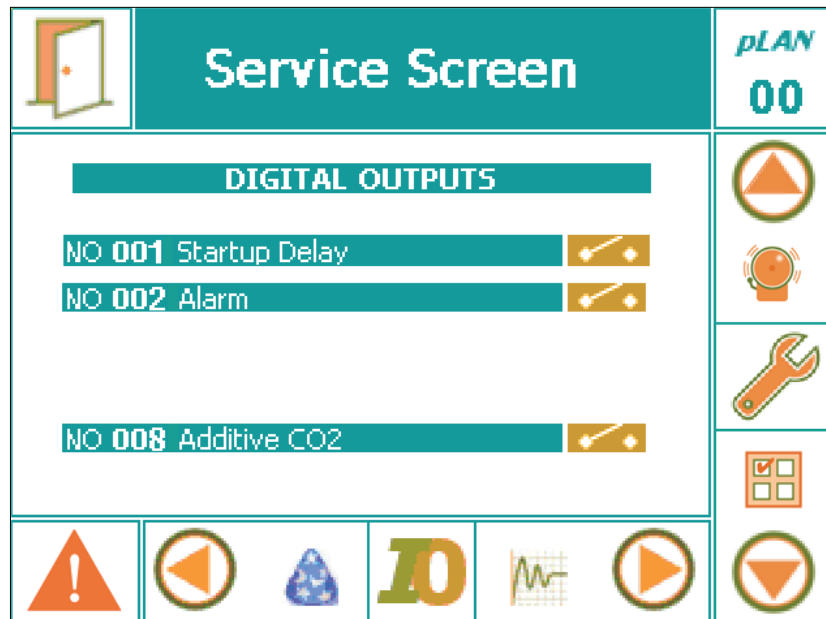

Fig 9-3: Sample I/O Screen - Digital Outputs
- When a program is not running, the I/O Status screen allows analog and digital output signals to be altered. This interactivity enables qualified service technicians to troubleshoot the chamber. Refer to Figure 9-3 for a sample screenshot of Digital Outputs. Note that the 'Orange' fields (when a Schedule is not running) can be altered. **(Note: Warning message above.)**